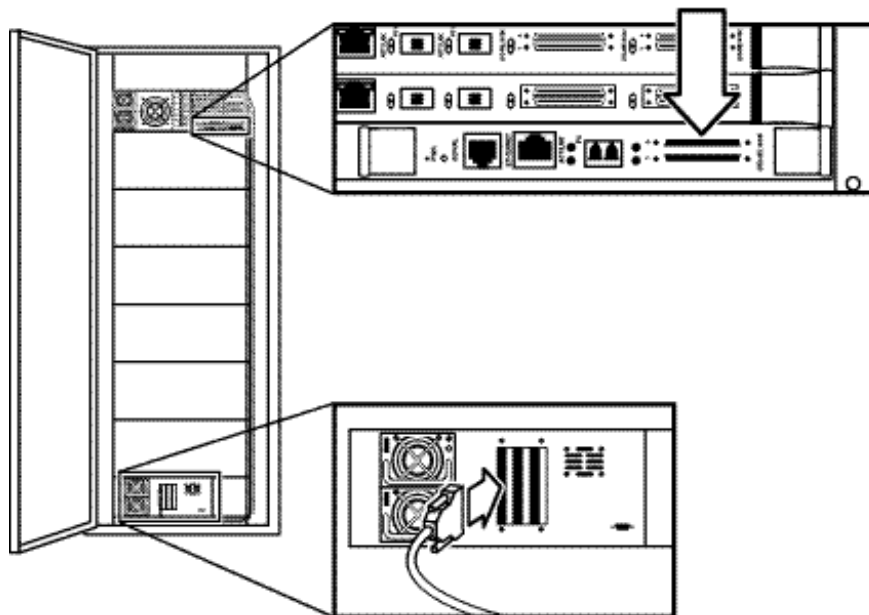

Figure 42: Connecting the robotics controller card (e1200-160)
2. Connect the SCSI cable to the cabinet controller located at the base of the library, and route it up through the cable access holes to the right of the drive clusters (see Figure 42).
4. Connect the other end to Port 0 of the robotics controller card (e1200-160), located in the card cage at the top of the library (see Figure 42).